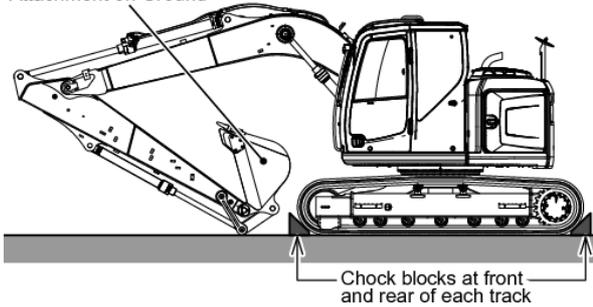

Fig. 8-1
1. Place chock blocks at front and rear of each track to prevent machine from moving when brakes are released. See Fig.8-1.